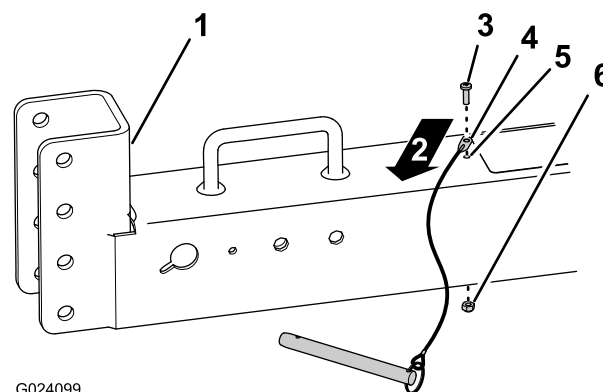

Figure 1
Note: Ensure that the cable points toward the mounting bracket of the tow pole and is angled 45° to the side as shown in Figure 1.
1. Align the hole in the mounting tab of the cable to the 4.7 mm (3/16 inch) hole in the top of the tow pole (Figure 1).
2. Secure the mounting tab of the cable to the tow pole with the screw (10-24 x 5/8 inch) and locknut (Figure 1).